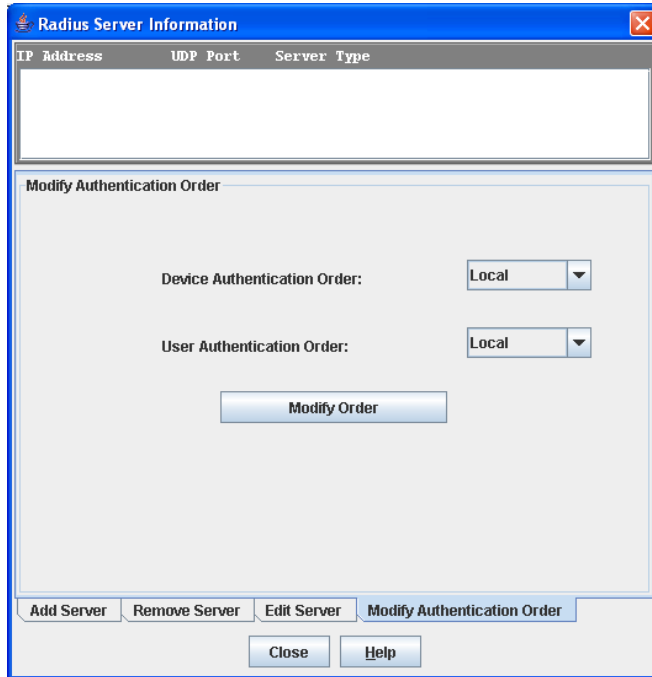

Figure 25 RADIUS Server Information dialog—Modify Authentication Order tab page
2. Click the **Modify Authentication Order** tab in the Radius Server Information dialog shown in Figure 25.